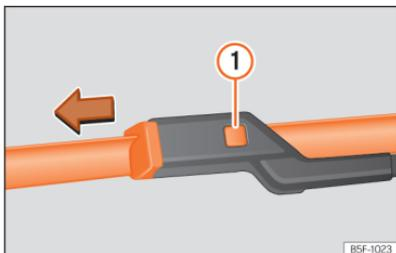

Fig. 160 Changing the windscreen wiper blades
- Press and hold release button >>> Fig. 160 ① and pull gently on the wiper blade in the direction of the arrow.